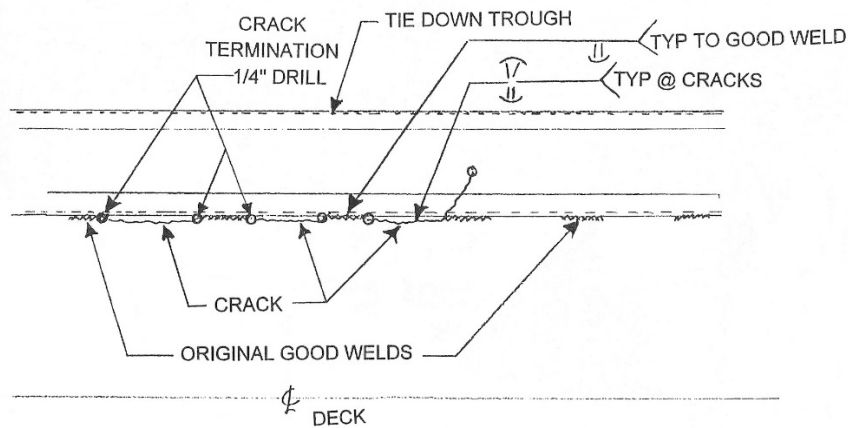

Figure 18. Repair of Crack in Deck Plate
2. Seal weld the deck sheet crack on the top side. Weld from one termination hole to the next termination hole. Continue to weld the next crack and so on if cracks are intermittent between a series of skip welds. See Figure 18.